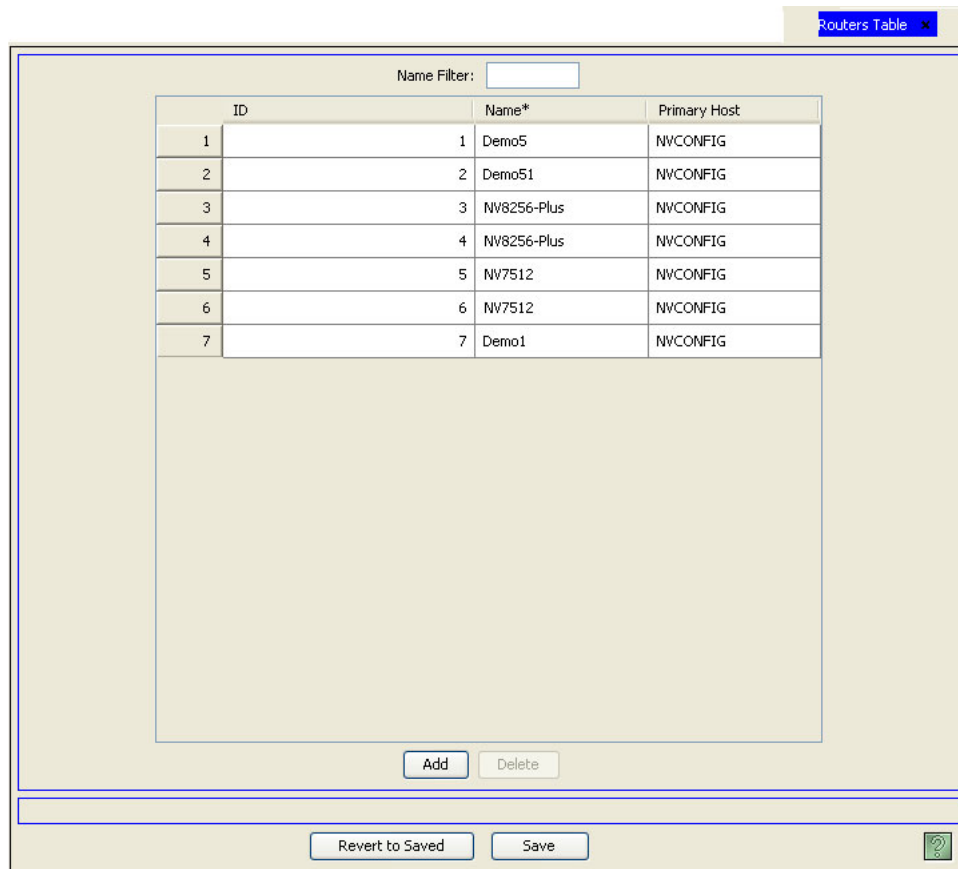

Figure 7-10. Routers Table
- 2 From the Navigation area, select the 'Views' pane and then 'Routers'. The 'Routers' table appears, as shown in Figure 7-10.